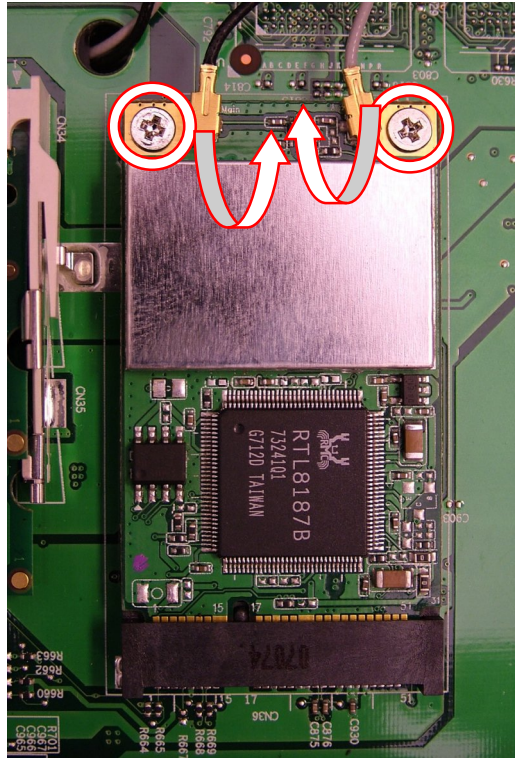

Fig. 7 Location of antenna cable connectors and screws.
3. Remove the 2 screws securing the wireless LAN adapter (see Fig. 7); the adapter will eject upwards.